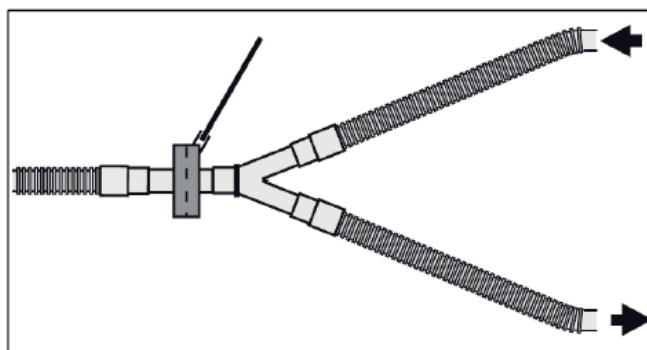

Figure 1
- Use of a **mechanical breathing system filter (BSF)** such as MP01790 SafeStar 55 (adults only) at patient side (between tracheal tube and y-piece of the breathing circuit (hoses)). **Caution:** The gas sample line of the anesthesia device must be connected on the device side of the BSF in order to avoid contamination of the gas measurement unit and consequently the entire anesthesia device (see figure 1).